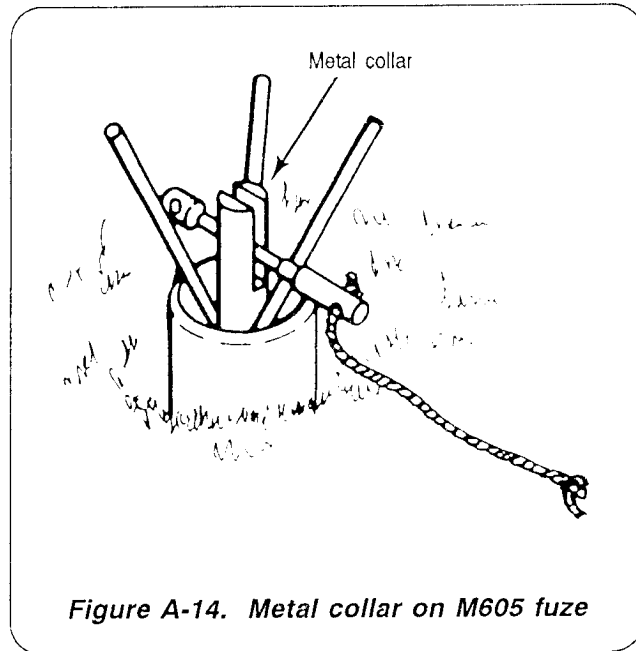

Figure A-14. Metal collar on M605 fuze
**Before attempting to disarm and remove the mine, ensure the metal collar (Figure A-14) over the top of the striker on the M605 fuze is in place**